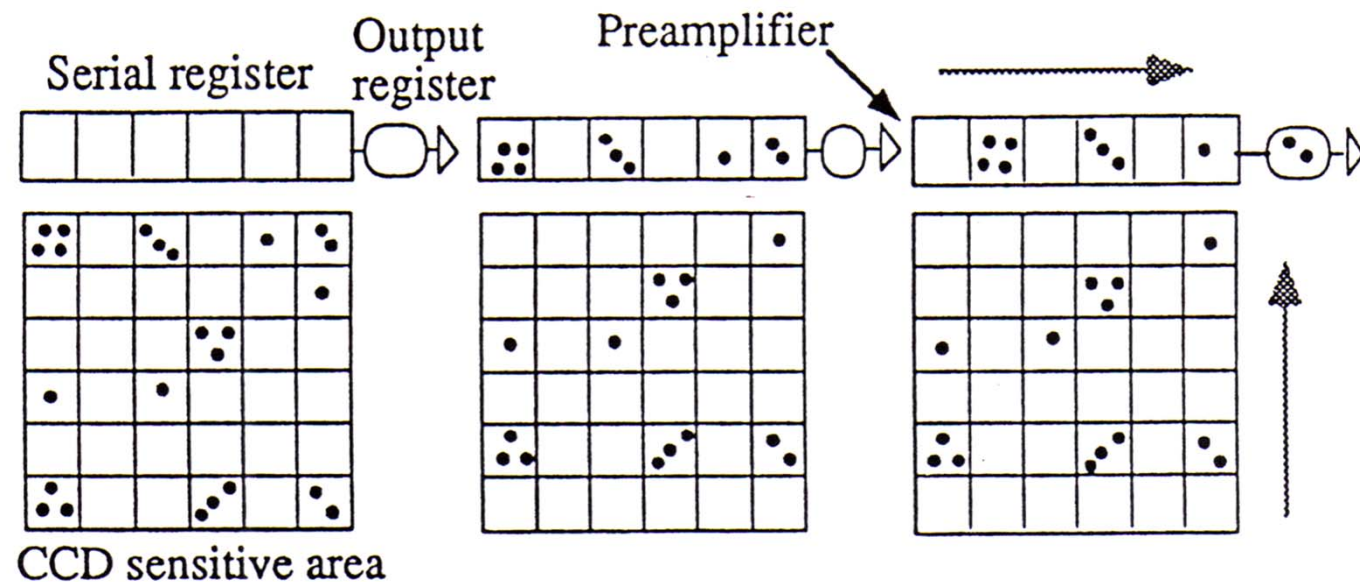

Figure 5
(3) After exposure
- ❖ As each pixel is clocked out of the serial register, each charge packet is converted into a proportional voltage signal (Fig.5).